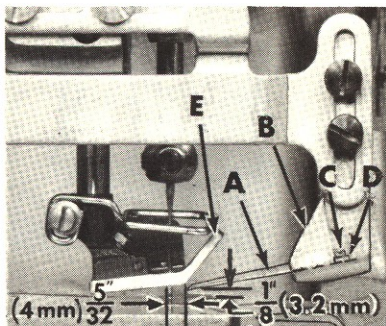
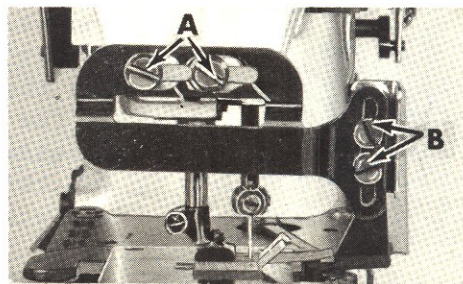

Fig. 14
Fig. 15
Assemble the stripper blade (A, Fig. 14) to the stripper blade holder using screws (C) and washers (D) with the front edge of blade square with the toe of the presser foot and parallel with the top of the throat plate. The left side of the stripper blade must also align with the left side of presser foot. WITH THE PRESSER FOOT AND RUFFLER BLADE RAISED, the front edge of stripper blade should be set $\frac{5}{32}$ inch (3.97 mm) IN FRONT OF NEEDLES on Styles 59300 C and E; on Styles 59300 F and G as close as possible without touching. The stripper blade should be set $\frac{1}{8}$ inch (3.18 mm) ABOVE THE TOP OF THROAT PLATE on Styles 59300 C and E; $\frac{5}{32}$ inch (3.97 mm) on Styles 59300 F and G. IN FRONT OF NEEDLES setting is accomplished by loosening screws (A, Fig. 15) position bracket as required and retighten screws. ABOVE THE TOP OF THROAT PLATE setting is accomplished by loosening locknuts securing screws (B, Fig. 15), then loosen screws (B) and position stripper blade holder as required. Retighten screws (B) and locknuts.